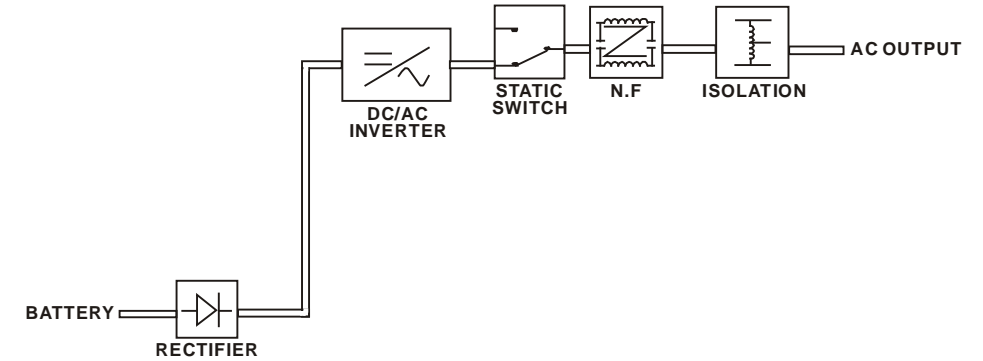

Figure 23: Battery System Block Diagram
7.3 AC Utility Failure (Fig.23)